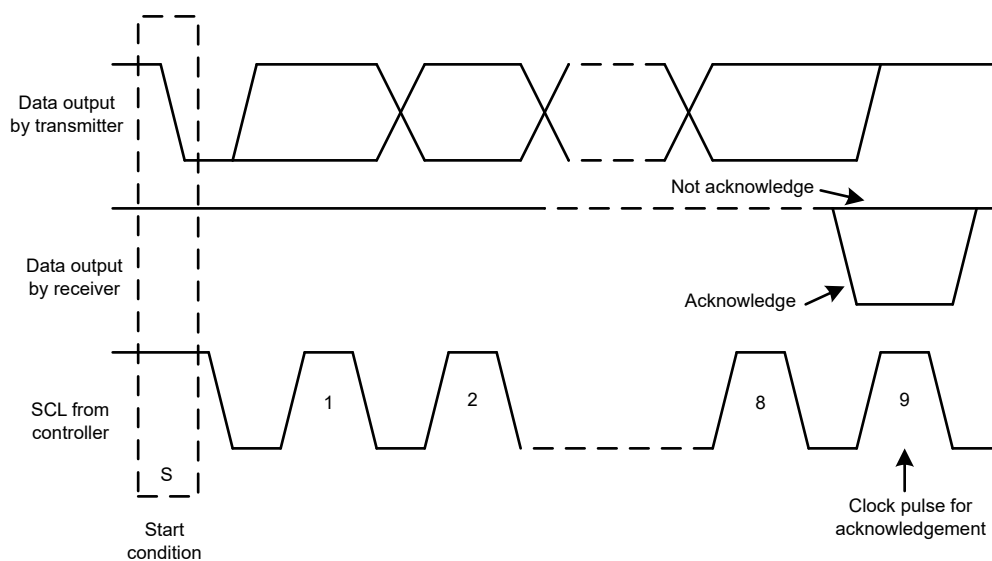
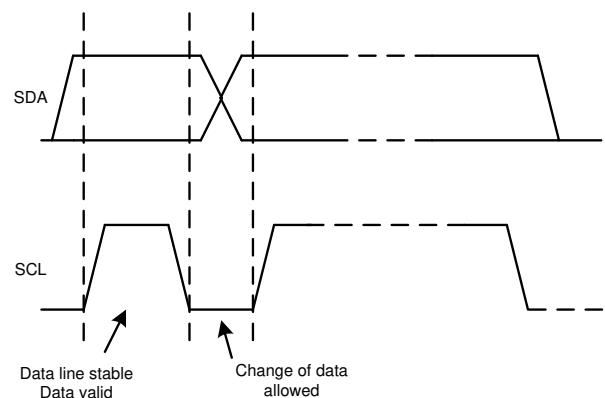

图 7-11. Acknowledge and Not Acknowledge on the I²C Bus
图 7-13. Bit Transfer on the I²C Bus
Other than specific timing signals, the I²C interface works with serial bytes. At the end of each byte, a ninth clock cycle generates and detects an acknowledge signal. An acknowledge is when the SDA line is pulled low during the high period of the ninth clock cycle. 图 7-11 depicts a not-acknowledge, when the SDA line is left high during the high period of the ninth clock cycle.
2. The controller then generates the SCL pulses, and transmits the 7-bit address and the read/write direction bit (R/\bar{W}) on the SDA line. During all transmissions, the controller makes sure that data are valid. 图 7-13 shows that a valid data condition requires the SDA line to be stable during the entire high period of the clock pulse. All devices recognize the address sent by the controller and compare the address to the respective internal fixed address. Only the target device with a matching address generates an acknowledge by pulling the SDA line low during the entire high period of the 9th SCL cycle (see also 图 7-11). When the controller detects this acknowledge, the communication link with a target has been established.